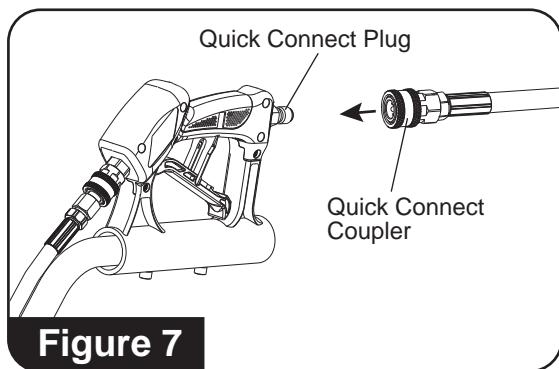

Figure 7
7. Insert the quick connect coupler of the pressure hose onto the quick connect plug on the trigger. (See Figure 7)